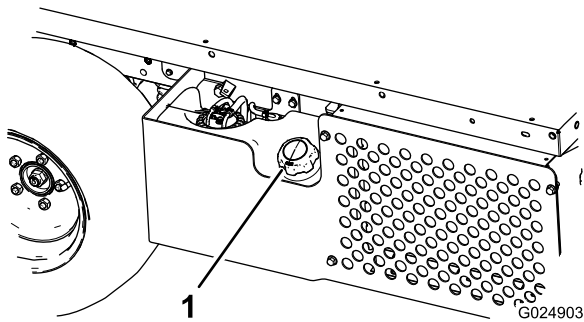

Figure 13
- Remove the fuel tank cap (Figure 13).